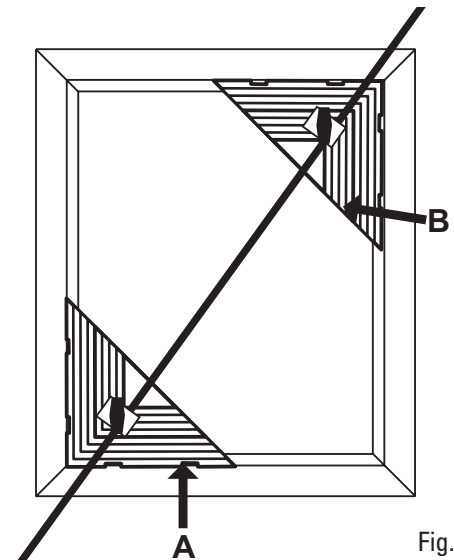

Fig. 4
Step 2 - Slide Triangle B into the upper right hand corner of the frame making sure that it also fits snugly into place. Tighten knob until secure. (Fig. 4).